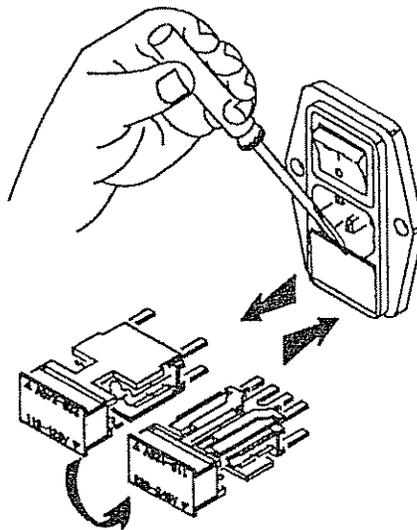

Figure 2-25. Fuse Block Removal
8. Remove the fuse block from the line module/switch assembly. To do this, place the blade of a small screwdriver into the slot that is near the assembly's power cord receptacle and pry the fuse block out of the assembly (see figure 2-25).